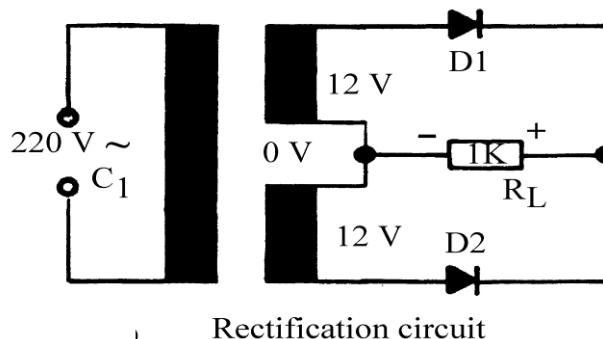
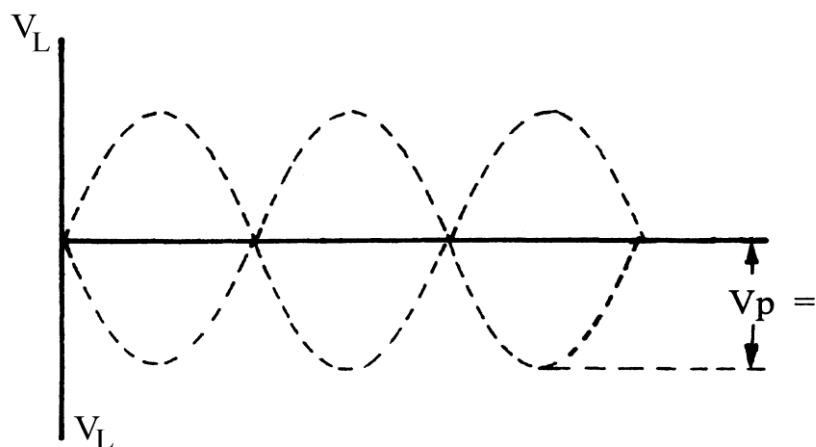

Figure 9
Figure 11
- Construct the circuit as shown in Fig. 9.
- Draw the output waveform with both D1 and D2 reversed in Fig. 9 on the next page in on the axis in Fig. 11.
- The method shown in Fig. 11 makes use of a centre tapped transformer. Another method of obtaining full wave rectification without a centre tap transformer is to use four diodes connected in a bridge mode. This is explained in the next section.